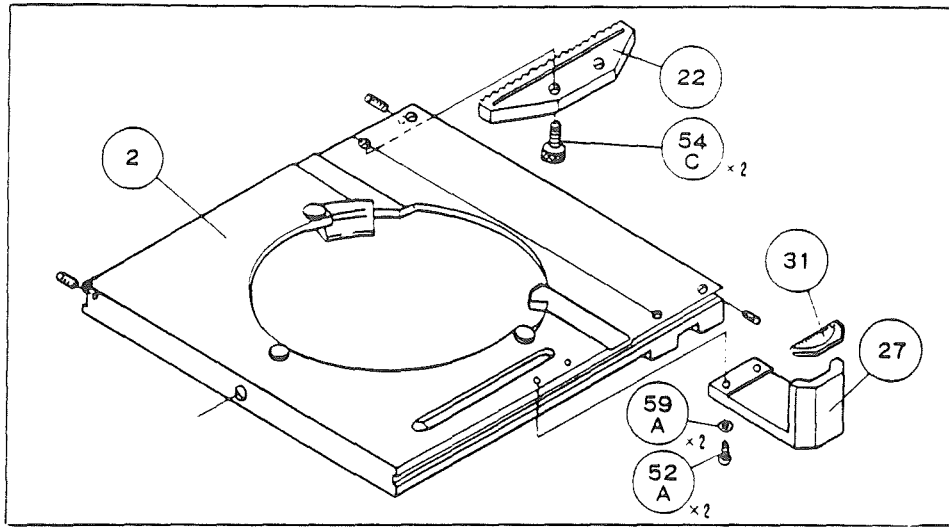
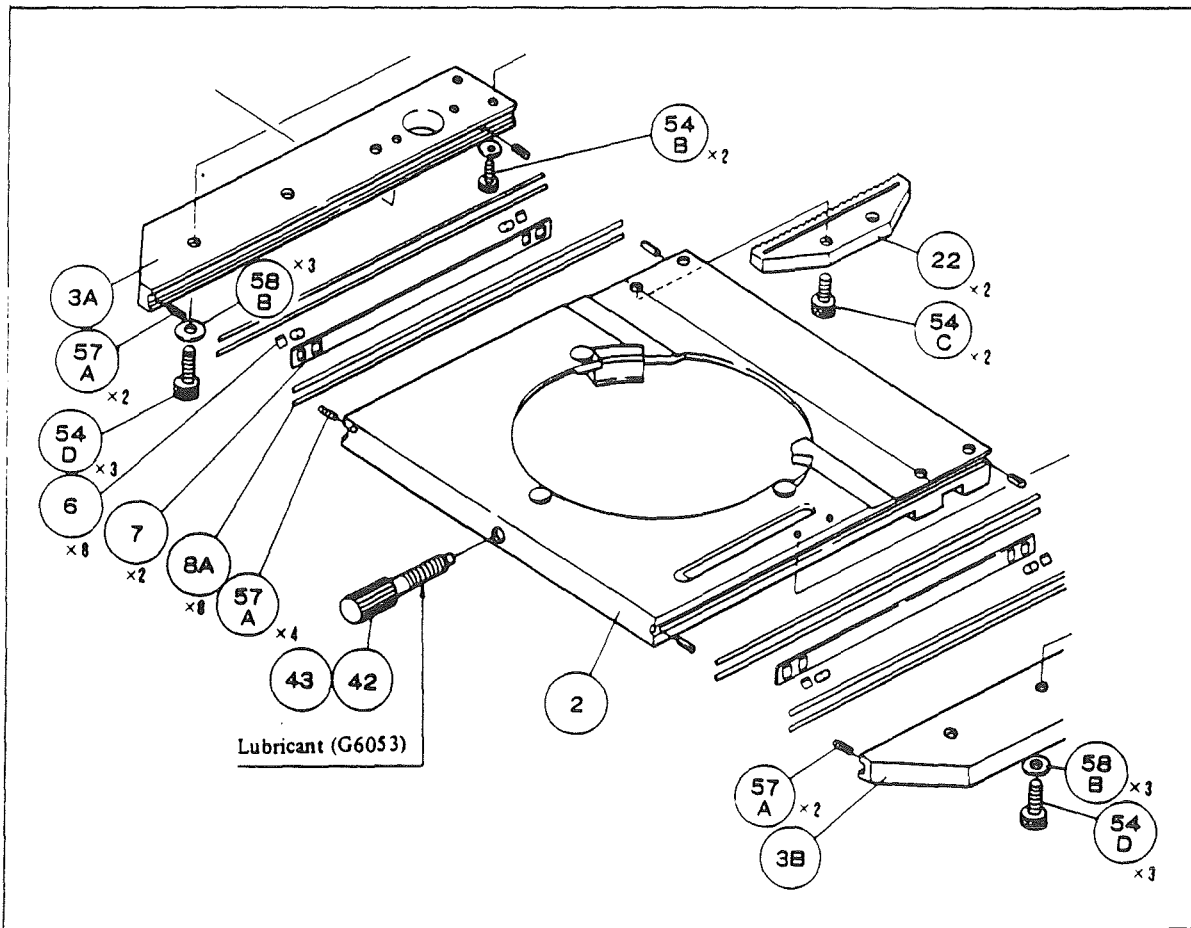

Fig. 4
Fig. 5
- 4) Releasing the screws (54C) x2, remove the rack (22) (Fig. 4).
- 5) Removing the screws (54A) x2 of the pinion cover (9) separate the handle assembly from the stage.
- 6) Remove the nut (55A) of the X (right and left) knob (14).
- 7) Remove the X knob (14).
- 8) Remove the wave washer (18), the Delrin washer (21) and the flat washer (58C).
- 9) Remove the round nuts (15) (16) of the Y (to and fro) knob (13).
- 10) Remove the wave washer (17) and the Delrin washer (19).
- 11) Remove the Y pinion (12) and Y knob (13) assembly.
- 14) Releasing the screws (52A) x 2, separate the vernier scale seat (27) from the stage base plate (2). (Fig. 4)
- 15) Releasing the screws (54B) x 4 separate the X guide block (4) from the Y guide blocks (3A), (3B). At the same time the X block (5), the rollers (6) the retainers (7) and the guide rails (8B)(8C) are also separated.
- 16) Remove the X rack (23) from the X block (5).
- 17) Separate the guide block either (3A) or (3B) from the stage upper plate (1). Then the stage base plate (2) the rollers (6), the retainers (7) and the guide rails (8A) becomes free. (Fig. 5)
**< Reassembling the X and Y Movement >** (Fig. 5, 6) .
- 1) Place the stage upper plate (1) upside down tilting on a table. The guide block (3A) (or (3B)) whichever that has been left fixed on (1) makes the basis of the reassembling.